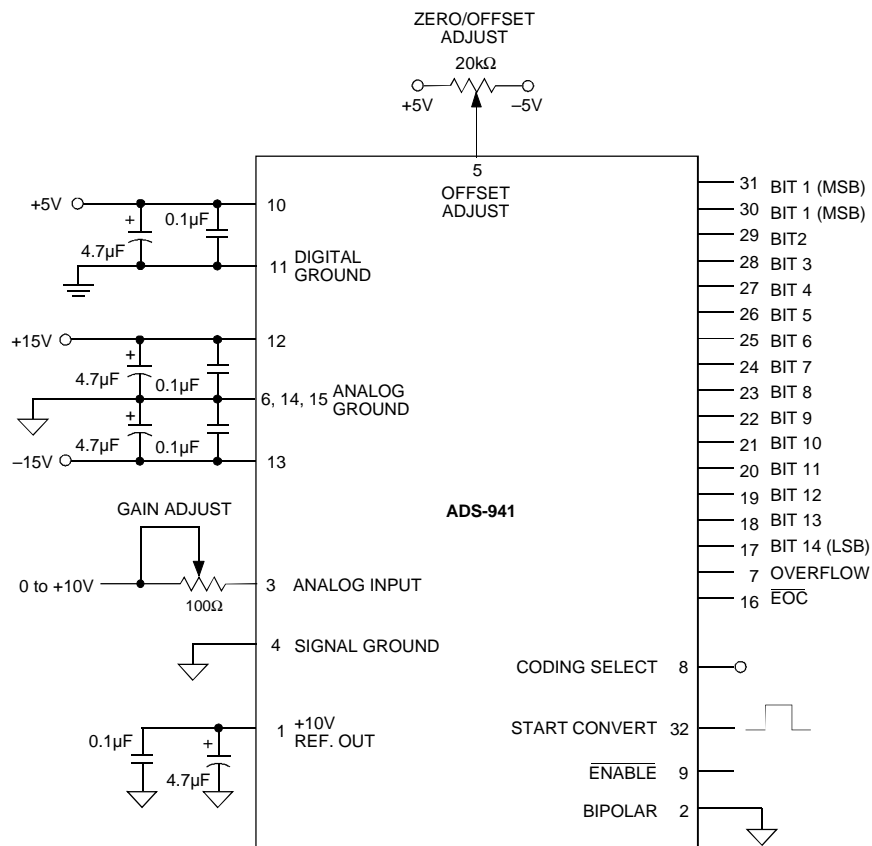

Figure 3. ADS-941 Connection Diagram
1. Connect the converter per Figure 3 and Table 1 for the appropriate input range. Apply a pulse of 50 nanoseconds minimum to START CONVERT (pin 32) at a rate of 200kHz. This rate is chosen to reduce flicker if LED's are used on the outputs for calibration purposes.